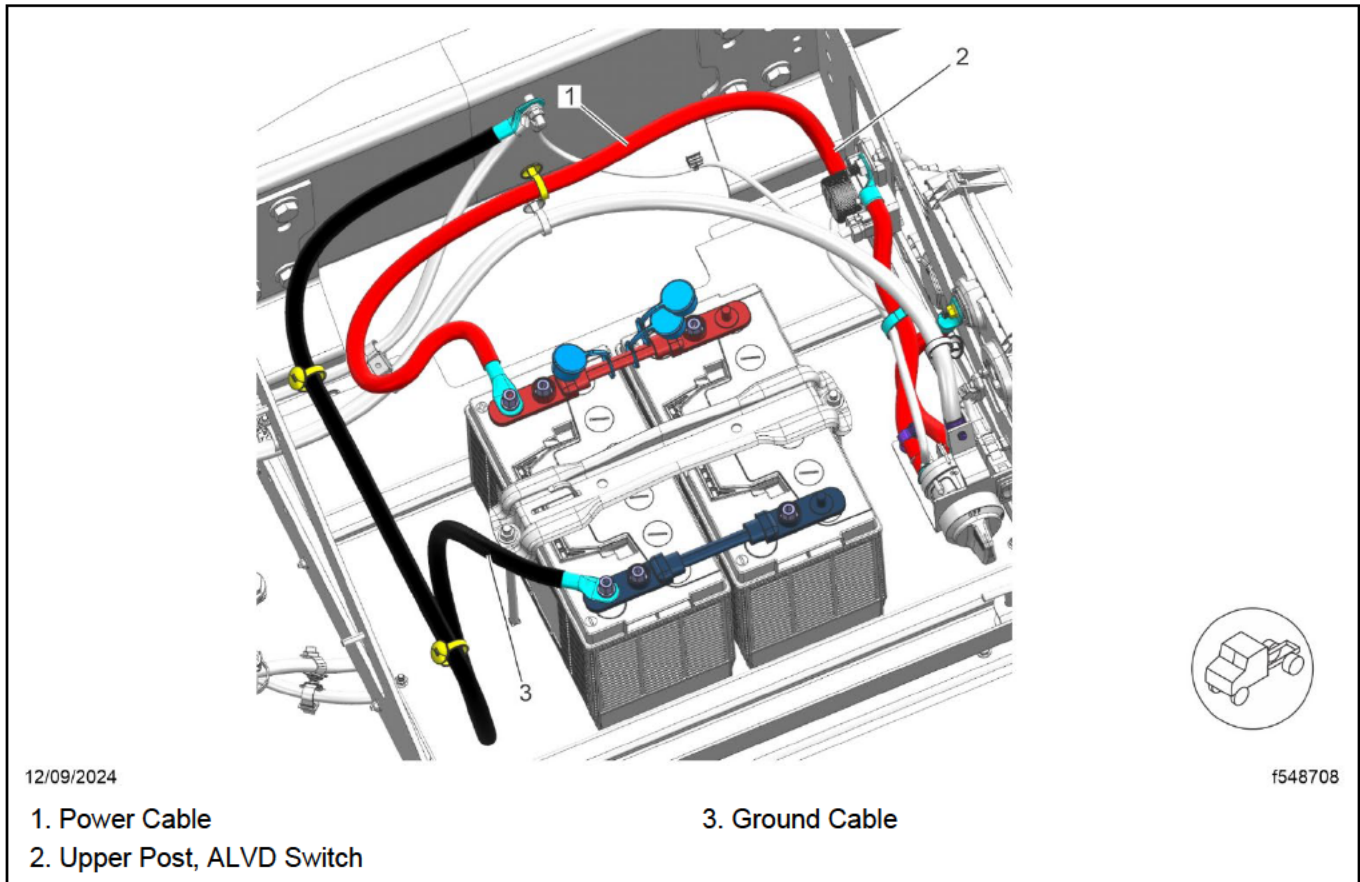

Fig. 10, Connecting the Power Cable to the ALVD Switch
23. Connect the power cable (A06-34492-041) to the lower post on the ALVD switch. Tighten the fastener 20 lbf-ft (27 N·m). Clip the cable as shown in **Fig. 10** to avoid chaffing.
25. Connect the open end of the power cable (A06-34492-041) as shown in **Fig. 10**. Tighten the fastener 21 lbf-ft (28 N·m).
26. Connect the ground cable to the battery as shown in **Fig. 10**. Tighten the fastener 21 lbf-ft (28 N·m).